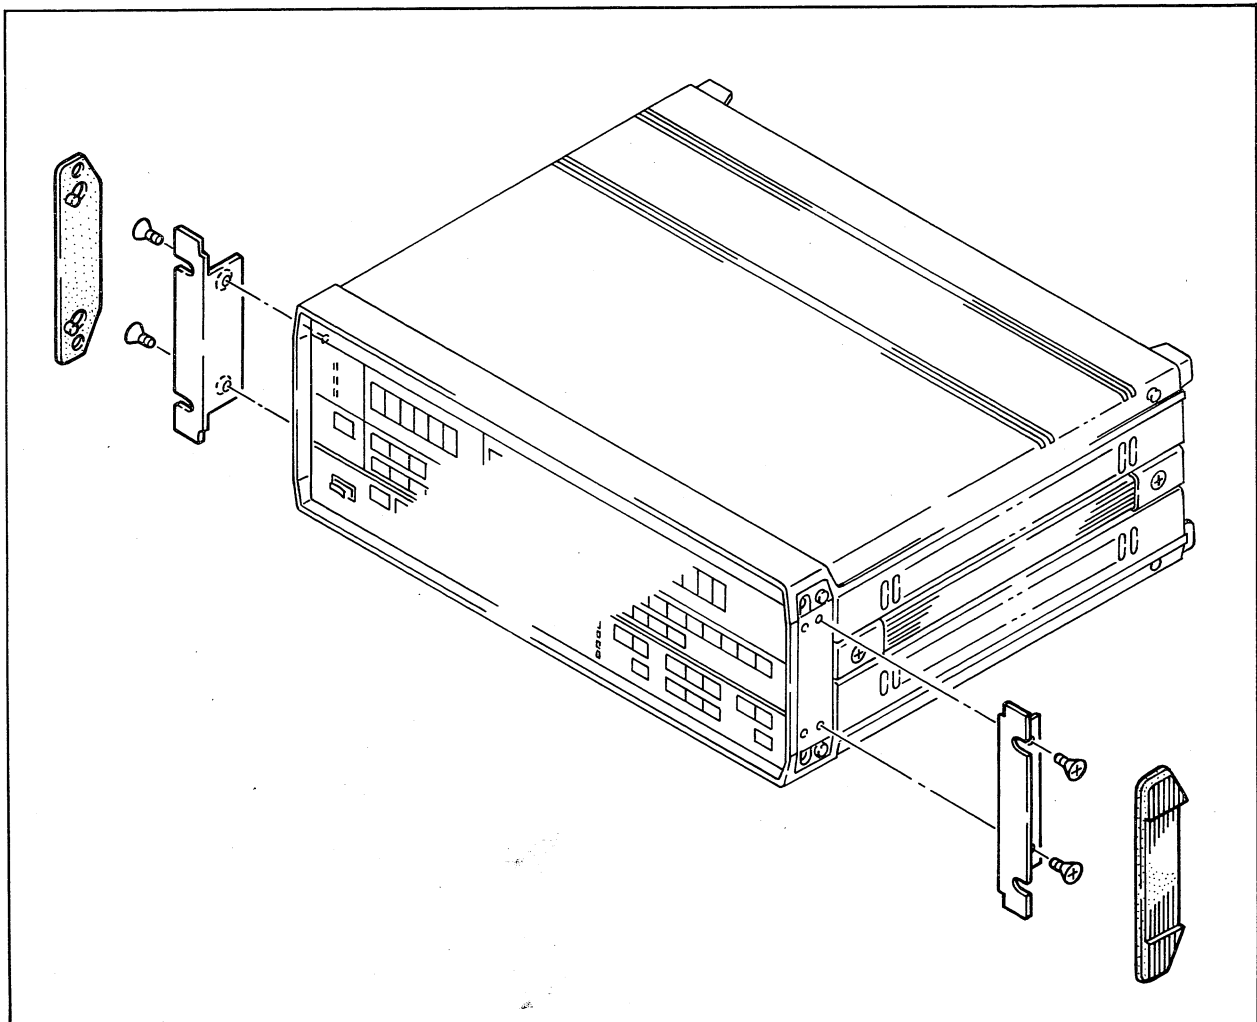

Figure 2-6.
- ① Remove the rubber covers from the sides of the mainframe shown in Figure 2-6.
- ② Loosen each right and left 2 countersunk screws from the locations where the rubber covers were removed.
- ③ Attach the adapter with the countersunk screws loosened in ②.
- ④ Remove the four legs from the mainframe sides with a flathead screwdriver.
- ⑤ Mount the mainframe on the rack.